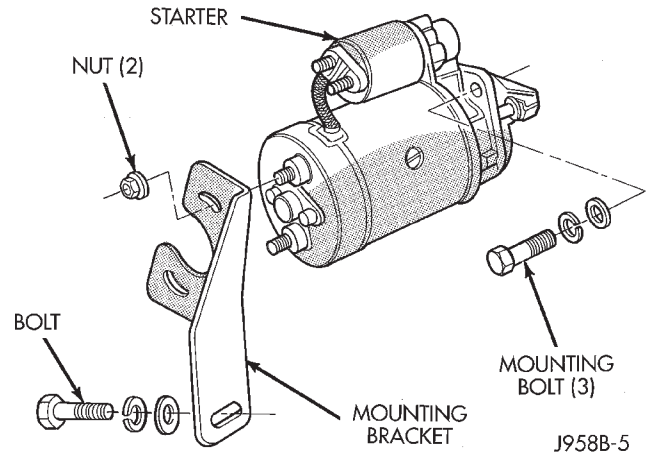

Fig. 11 Starter Mounting - 2.5L Diesel Engine
(1) Disconnect and isolate the battery negative cable.
(2) Raise and support the vehicle.
(3) Remove the right front engine mount insulator and brackets. Refer to Group 9 - Engines for the procedures.
(4) Remove the starter front support bracket (Fig. 11).